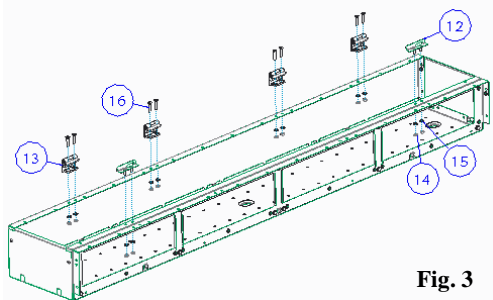

Fig. 3
- After the Cableway box is assembled start adding the hinges and latches, refer to Fig. 3 & Fig. 6 for details.